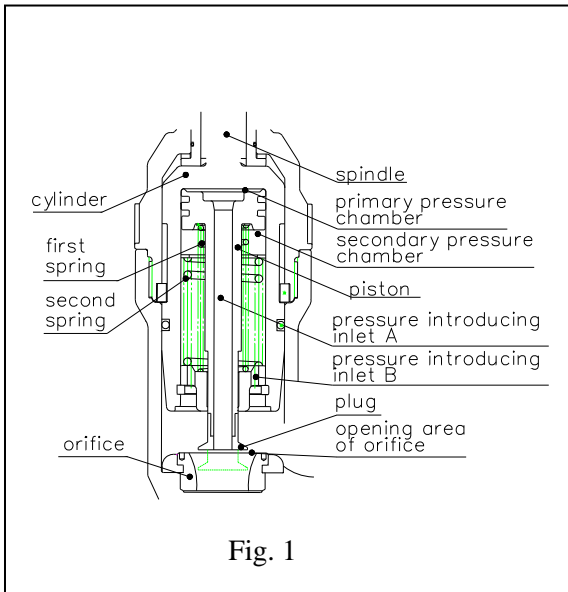

Fig. 1
Refer to Figure 1 for design and operation of ASAHI AV Flow Control Valve. When the upstream fluid pressure, P_1 is introduced at the flow control orifice, it exerts a corresponding pressure on the upper surface of the flange on the piston type valve plug.
3) Using a torque wrench, tighten the bolts and nuts gradually to the specified torque in a diagonal manner (Refer to Fig.1.)